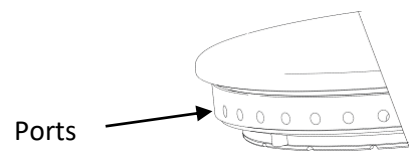

Figure 9
- Thoroughly clean with soap and water. Ensure all burner ports are clean and free from food or cleaning material debris.(**Fig 9**)